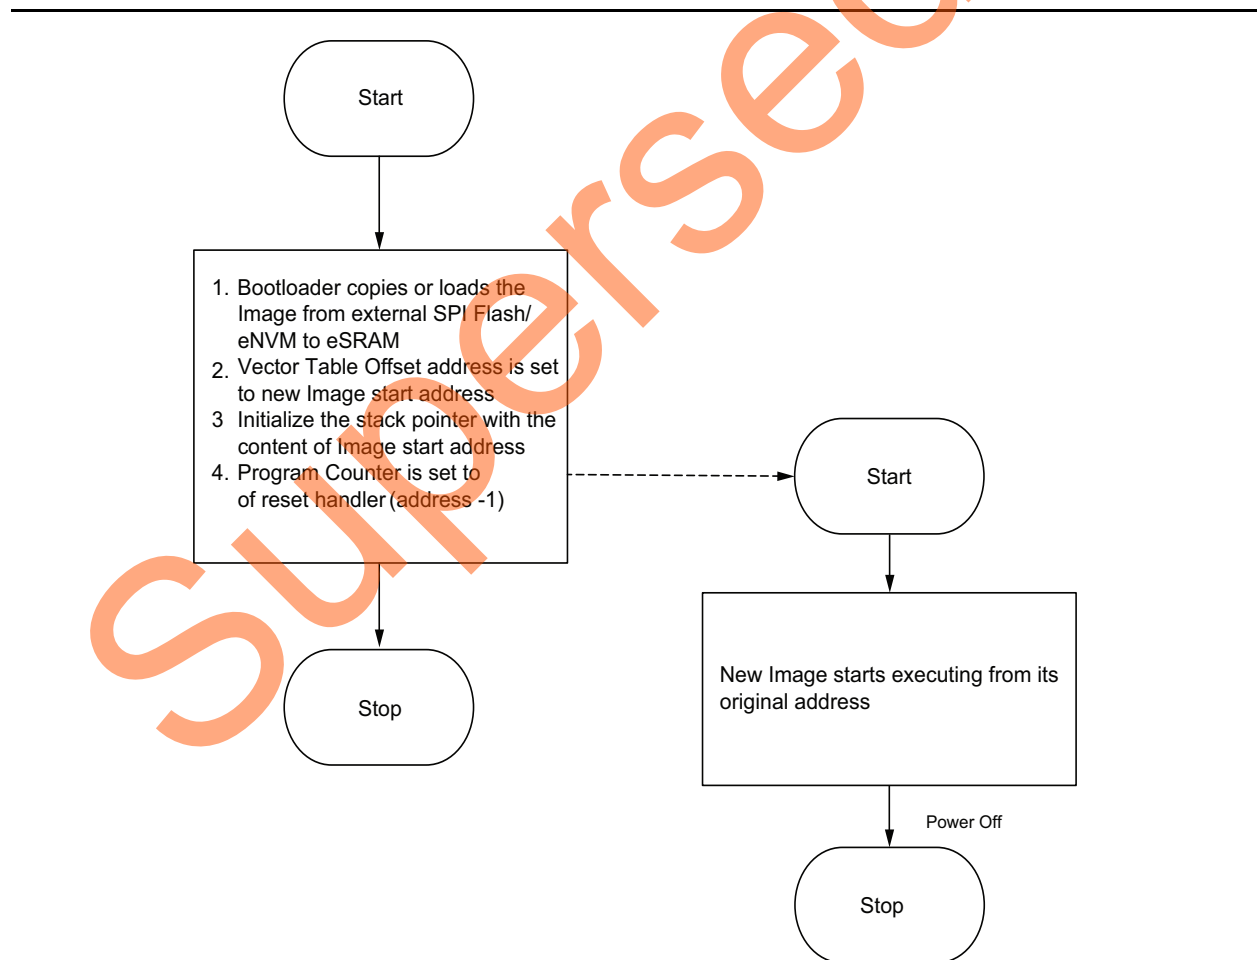

Figure 12 • Logic for Moving Execution Control to New Image in eSRAM without Remapping
1. **Without remapping:** Using the vector table offset register in the system registers, the vector table address of the desired image can be set for execution, and point the stack pointer (SP) and the program counter to the reset handler of the desired image. This allows the Cortex-M3 processor to execute the new image. The eSRAM address must be used in the linker script generation for the executable images in this approach. This approach is explained in the flow chart shown in Figure 12.